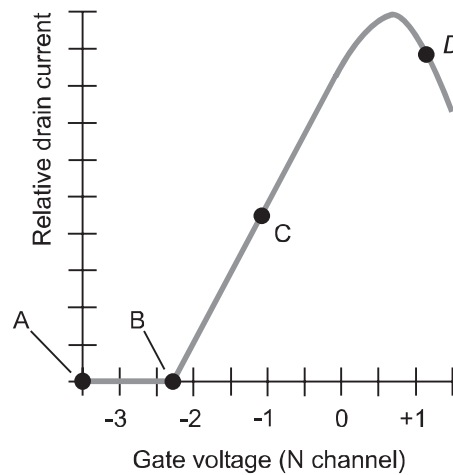

Fig. Test2-1. Illustration for Part Two Test Questions 2 through 5.
2. What does Fig. Test2-1 most likely represent?
3. In Fig. Test2-1, which point, if any, is ideal for weak-signal amplification?
4. Which, if any, of the points in Fig. Test2-1 is exactly at pinchoff?
5. In Fig. Test2-1, which point, if any, represents improper bias for any common application?